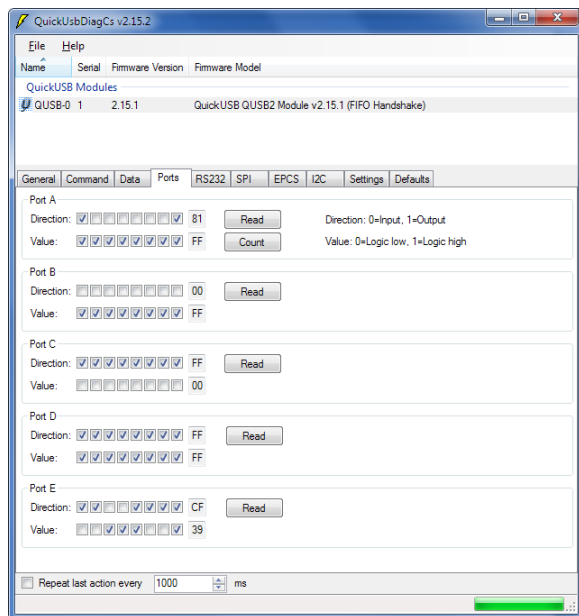

Figure 4 – Reset the FIFO Demo with the QuickUSB Diagnostics Program
- b. Navigate to the “Ports” tab. Under “Port A”, check Bit 7 in the “Dir” bit checkbox field to set PA7 as an output (see Figure 4)
- c. Under “Port A”, check Bit 7 in the “Value” bit checkbox field to drive PA7 high. This will enable power to the FPGA (see Figure 4).
- b. Under “Port A”, check Bit 0 in the “Dir” bit checkbox field to configure PA0 as an output, as shown in Figure 4